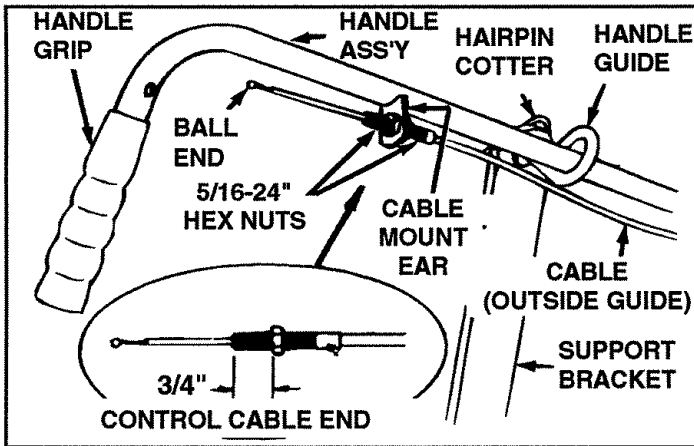
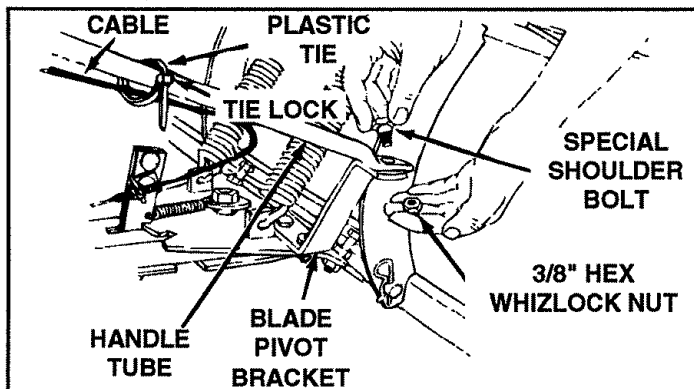
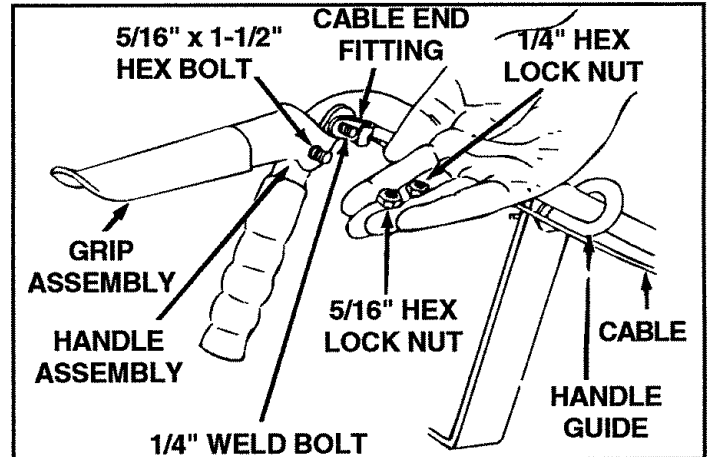

FIGURE 23
FIGURE 24
FIGURE 25
24. Assemble handle assembly down through handle guide as shown in figure 23. Secure lower end of handle to top side of blade pivot bracket with special shoulder bolt (on top) and 3/8 inch hex whizlock nut underneath. See figure 24.
25. Assemble one 5/16-24 inch hex nut onto threaded end of control cable approximately 3/4 inch from end. Assemble threaded end of cable up through cable mount ear and secure with second 5/16-24 inch hex nut. See figure 24.
26. Assemble handle grip onto end of handle if not already pre-assembled. See figure 23.
27. Wrap plastic tie around handle tube and cable, (see figure 24), assembling end of tie through lock. Pull plastic tie tight to retain cable to handle tube near front of tractor hood. Cut off extra plastic end.
29. Assemble ball end of cable (see figure 23), through round hole in cable end fitting and into slot of fitting. See figure 25. Assemble cable end fitting over 1/4 inch weld bolt on grip assembly and secure with one 1/4 inch hex lock nut. **NOTE: Do not over tighten lock nut, cable fitting must pivot freely.**